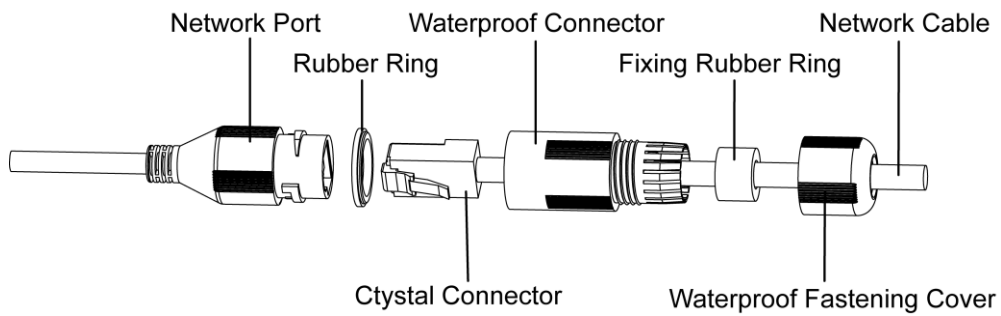

Figure 2-3
**Step 4** (Optional) Install waterproof connector for network port, which is shown in Figure 2-3.**Note**